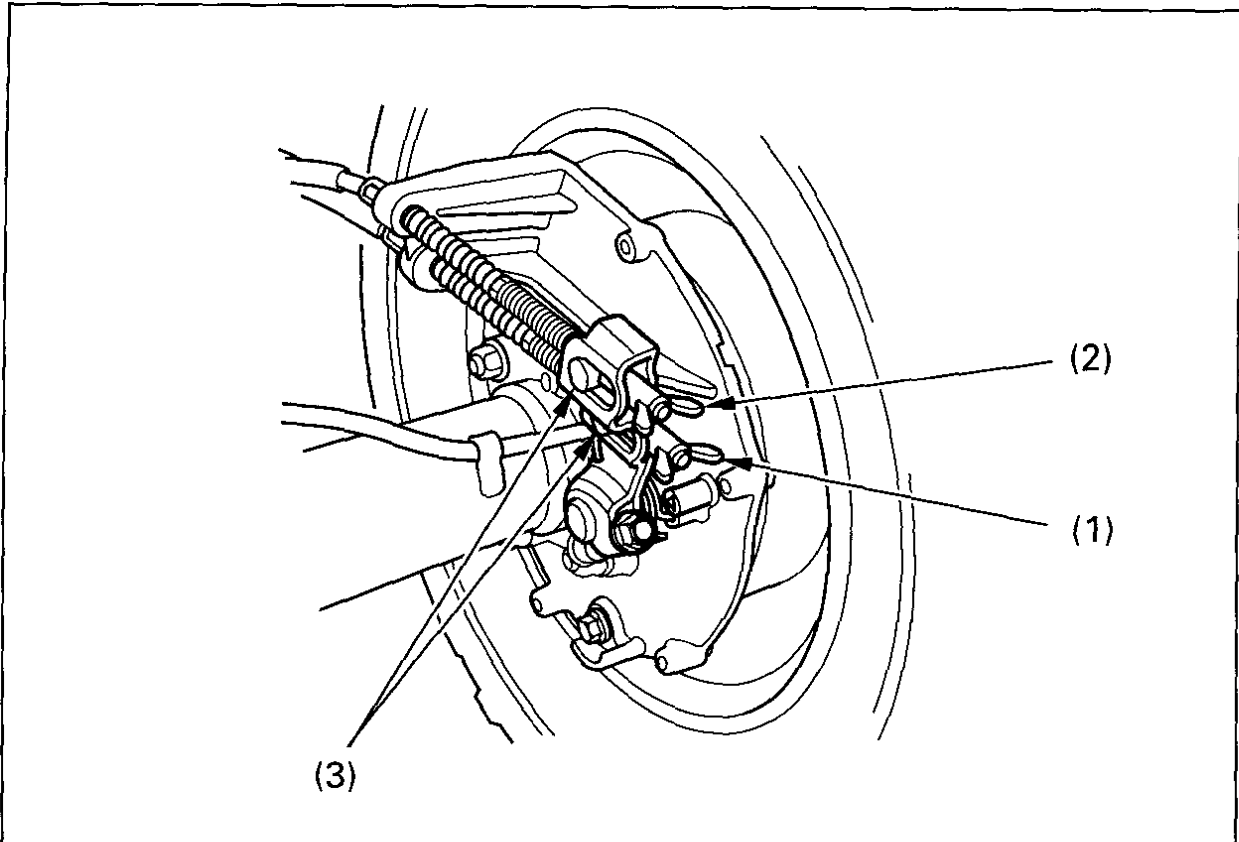

Fig. 4-29 (1) Brake pedal adjusting nut
(1) Rear brake pedal
To adjust the free play, turn the brake pedal adjusting nut (1), (Fig. 4-29), located on the brake operating rod at the rear of the frame. Make sure the cut-out on the adjusting nut is properly seated on the brake arm pin (3).
To adjust the free play, turn the brake lever adjusting nut (2), (Fig. 4-29), located on the brake operating rod at the rear of the frame. Make sure the cut-out on the adjusting nut is properly seated on the brake arm pin (3).